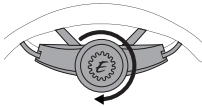
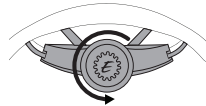

Figure 13a.
Figure 13b.
3. If the fit system is too loose, rotate the adjusting wheel clockwise to tighten (Figure 13a). If the fit system is too tight, rotate the adjusting wheel counter-clockwise (Figure 13b).